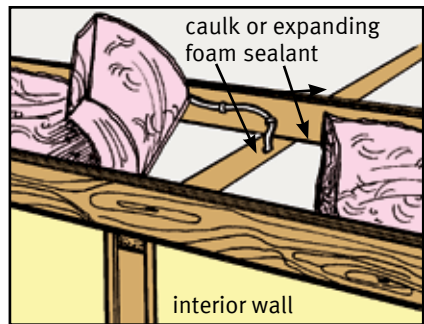

Figure 12 - Tops of interior walls
- **Tops of interior walls.** Use long-life caulk to seal the smaller gaps and holes; expanding foam or strips of rigid board insulation for the larger gaps (see Figure 12).